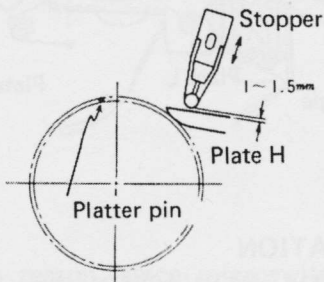

Fig. 21-a
- 5. Gently raise the platter. So that space between plate H and stopper becomes 1-1.5mm, adjust by moving stopper (Fig. 21-a).